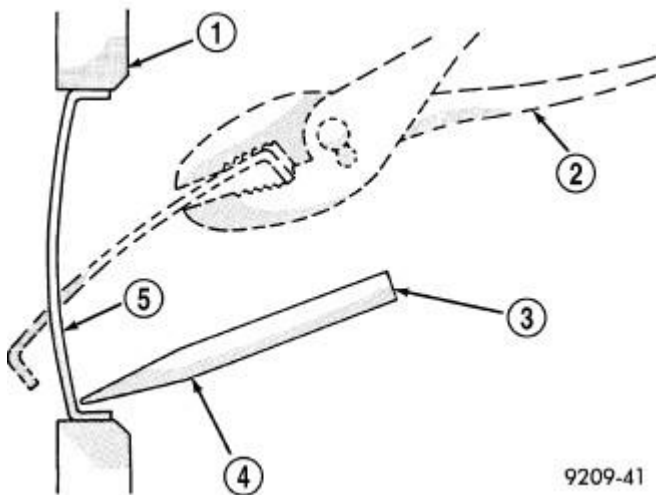

Fig. 5: Core Hole Plug Removal
Using a blunt tool such as a drift and a hammer, strike the bottom edge of the cup plug (5). With the cup plug rotated, grasp firmly with pliers or other suitable tool and remove plug. Refer to **Fig. 5**.